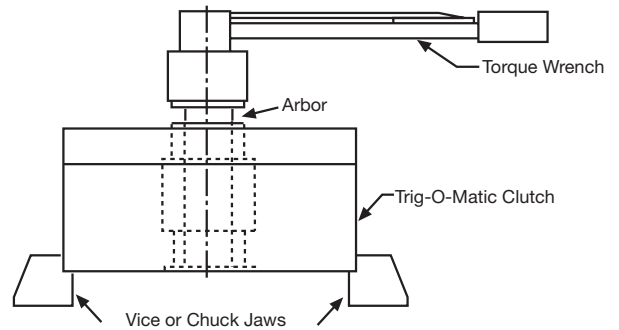

Figure 18
2. Insert the appropriate size arbor and key into rotor. (See Figure 18)
3. Turn the drive spring screw (21) clockwise until it is flush with the surface of the housing.
4. The clutch is supplied with a torque selector dial. The torque selector dial is the mill marks located at the hole stamped 9 on the housing. If a drive spring (18), reset spring (19), and/or a reset spring screw (14) were replaced, chances are that the stamped torque values on the dial are no longer valid. It may be necessary to grind the old numbers off and to stamp new ones.
5. Tighten the reset spring screw (14) until it reaches the limit stop pin (4). This will be the maximum torque position. If the maximum torque is not desired, tighten the reset spring screw to one of the locations on the torque selector dial.
6. Disengage the clutch with a torque wrench. Fine tune the torque by turning the drive spring screw (21) until the desired release torque is obtained.
8. Once the desired release torque is obtained, tighten the locking screws (25) located over the drive spring and reset spring screws to ensure that they will not move. The unit is now ready for installation. Refer to Section III for installation of basic clutch.